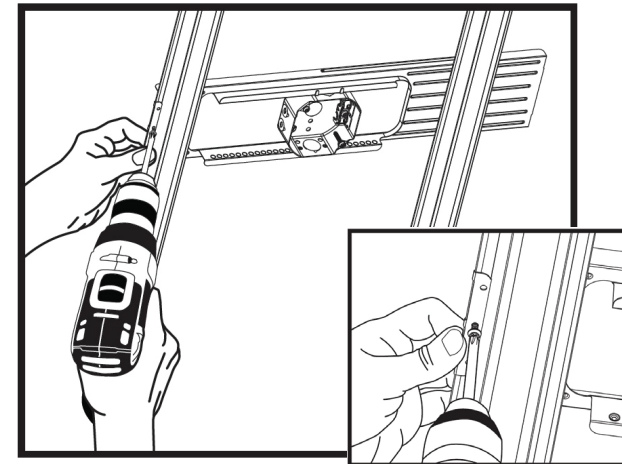

Figure 3
5. Insert a steel framing screw through the center hole of the guiding flange and through the channel. It will be guided towards the hole located on the top of the support (Figure 3).